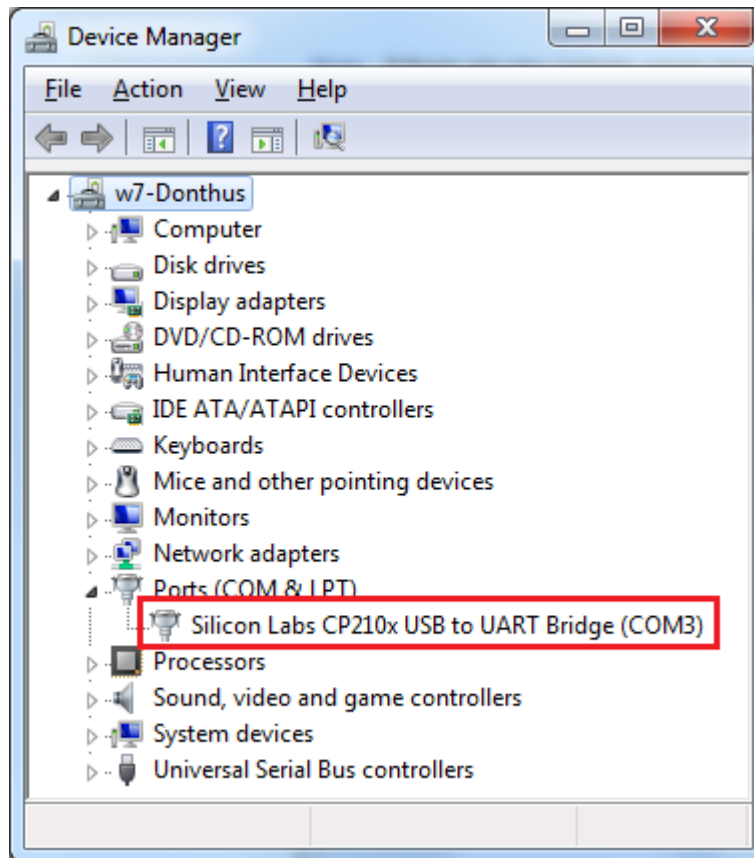

Figure 37 · Device Manager Listing Silicon Labs CP210x USB to UART Bridge Drivers
2. If the Silicon Labs CP210x USB to UART Bridge drivers are automatically detected (this can be verified in Device Manager), as shown in Figure 37 · . Proceed to next step, otherwise follow